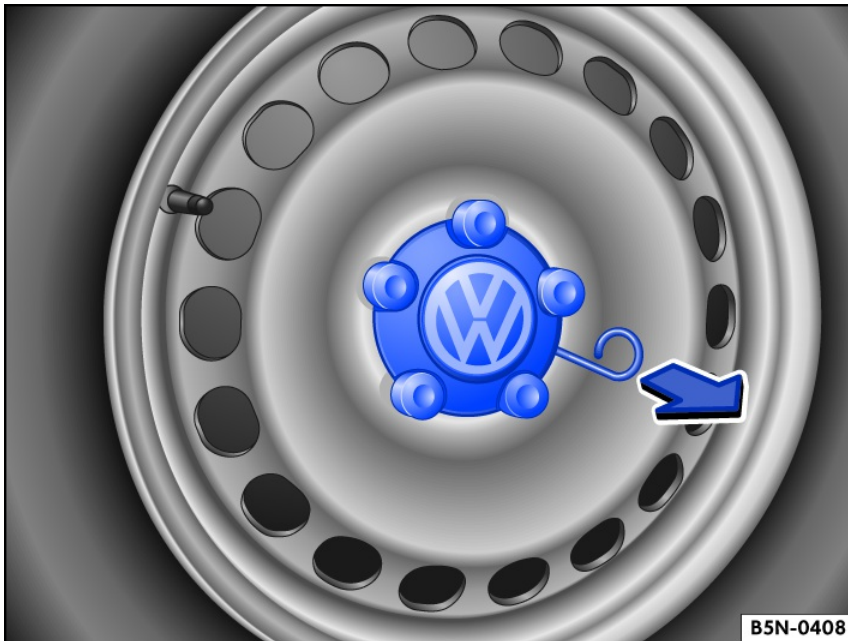

Fig. 198 Remove the hubcap.
1. *Removing:* Take the extraction hook out of the vehicle toolkit ⇒ Vehicle tool kit components and insert in a hole (alloy wheel) or hook it to the edge (steel wheel) of the hubcap fig. 198.